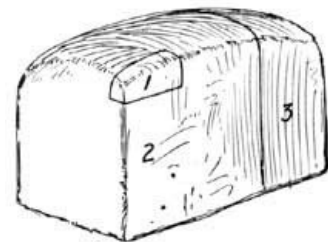

FIG. 36.—Diagram of the composition of a loaf of bread and of a potato:
**68. Relation of Water to Human Life.** Water is one of the most essential of food materials, and whether we drink much or little water, we nevertheless get a great deal of it. The larger part of many of our foods is composed of water; more than half the weight of the meat we eat is made up of water; and vegetables are often more than nine tenths water. (See Laboratory Manual.) Asparagus and tomatoes have over 90 per cent. of water, and most fruits are more than three fourths water; even bread, which contains as little water as any of our common foods, is about one third water (Fig. 36).